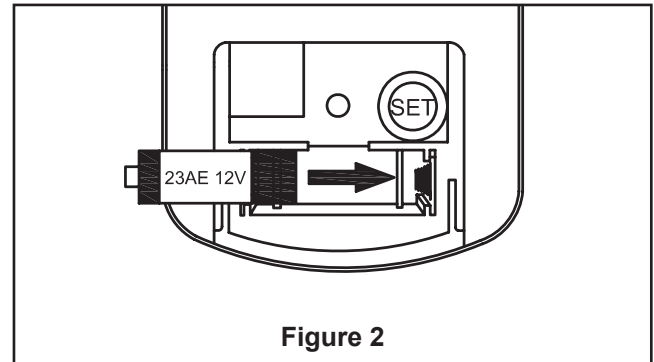

Figure 2
- ☐ 2. To make the fan operational, install 23A/12V battery (included) into the hand-held remote transmitter (If not used for long periods of time, remove the battery to prevent damage to the transmitter). With fan power off. Then follow the remote code setting process. Store the remote away from excessive heat or humidity. (Figure 2)